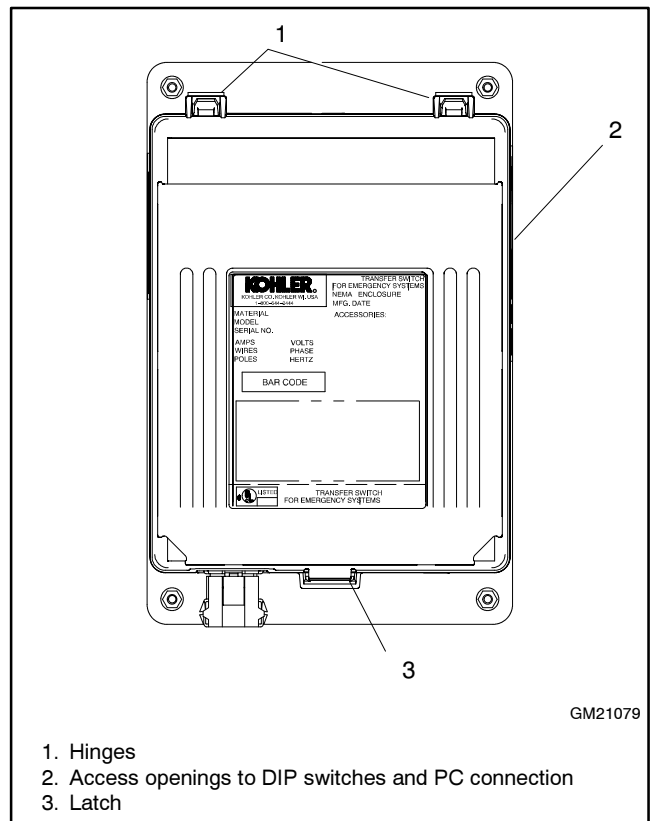

Figure 3-19 Controller Housing Cover
14. Remove the plastic cover from the old controller and save it to install on the new controller assembly. To remove the cover, depress the latch at the bottom of the cover. Swing the cover open on its hinges and lift it off. See Figure 3-19.